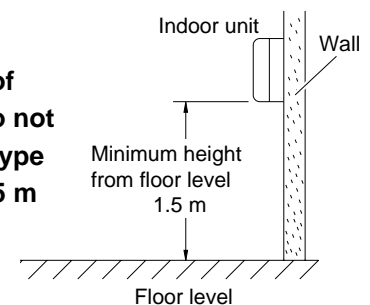

Fig. 3
- install the unit within the maximum elevation difference (H) above or below the outdoor unit and within a total tubing length (L) from the outdoor unit as detailed in Table 1 and Fig. 3.